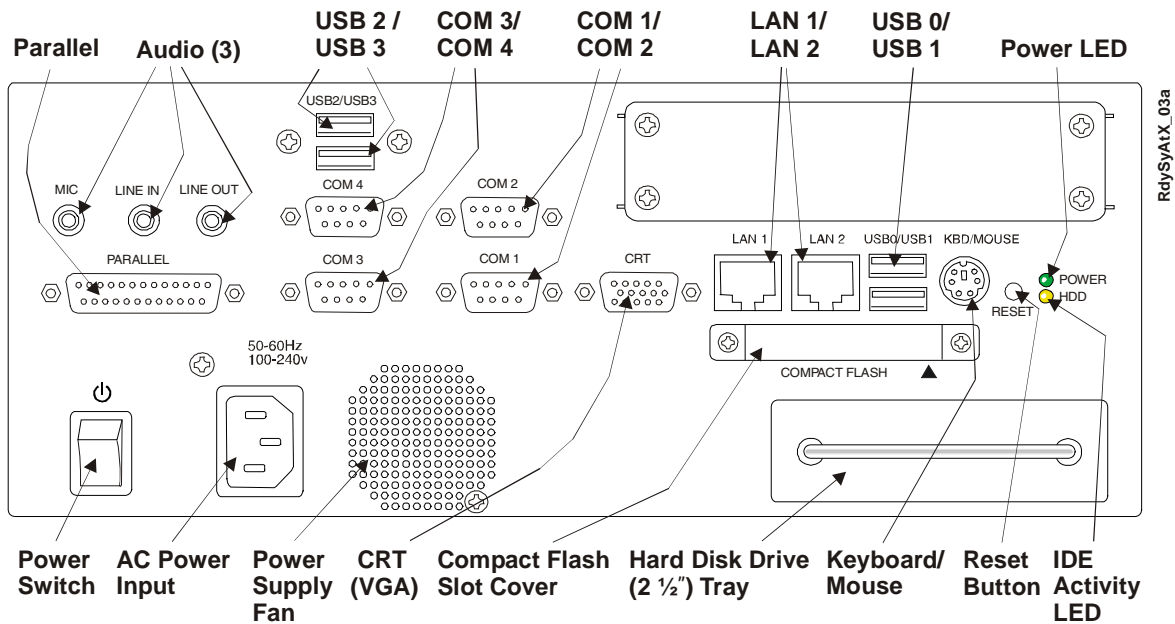

Figure 1-3. I/O Panel Controls and Connectors
<p>7) Connect the Y-cable and the respective peripheral cables/devices</p>	<ul style="list-style-type: none"> This includes the Y-cable for the PS/2 keyboard & mouse. <p>Refer to Figure 1-3 and Table 1-1 for the location and description of the connectors and controls.</p>
<ul style="list-style-type: none"> Connect the PS/2 Keyboard & Mouse Y-cable assembly to the Keyboard/Mouse port on the ReadySystem I/O Panel. See Figure 1-3. <p>This cable assembly provides two connectors for the PS/2 Keyboard and PS/2 Mouse shared port with icons for the specific device.</p>
<ul style="list-style-type: none"> Connect the CRT monitor, using its 15-pin video cable, to the CRT (VGA) connector on the I/O Panel of the ReadySystem. See Figure 1-3.
8) Power up the ReadySystem ATX	<ul style="list-style-type: none"> • Connect the supplied power cord into the AC input power connector of ReadySystem. See Figure 1-3. • Plug the CRT monitor's power cord into an AC outlet, and turn on the monitor. See Figure 1-3. • Plug the ReadySystem ATX power cord into an AC outlet. • Press the ReadySystem's momentary power switch (\approx 1 sec) before continuing. See Figure 1-3 and Table 1-1.
9) Verify the ReadySystem ATX powers on satisfactorily	<ul style="list-style-type: none"> • If you want to enter the BIOS Setup before the operating system (OS) starts to load, Press the key during POST at the prompt. Use BIOS Setup during the initial boot to set the desired options (time and date, etc.). • You should see POST complete successfully before the OS (operating system) starts to load. If you are using Linux, the boot loader will appear first, similar to the one shown below with the desired OS name displayed. <div data-bbox="495 756 1315 871" style="border: 1px solid black; padding: 5px;"> <p>NOTE The 40 GB (or greater) hard disk drive (2 ½") installed in the ReadySystem ATX comes with three partitions for the operating system (OS) and swap space..</p> </div>
2. Initiate a shut down sequence through the OS, or hold the power switch in for 4-6 seconds to turn power off. See Figure 1-3.